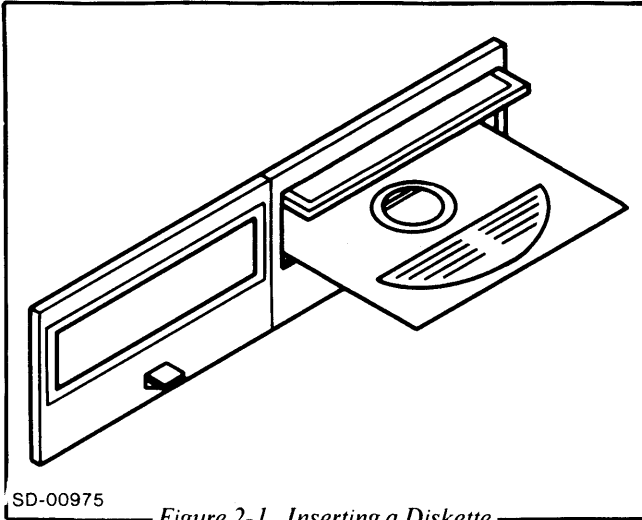

Figure 2-1. Inserting a Diskette
- Slide the diskette into the drive with the label on the envelope facing up, as shown in Figure 2-1. The diskette should slide in smoothly and come to a positive stop in the drive.